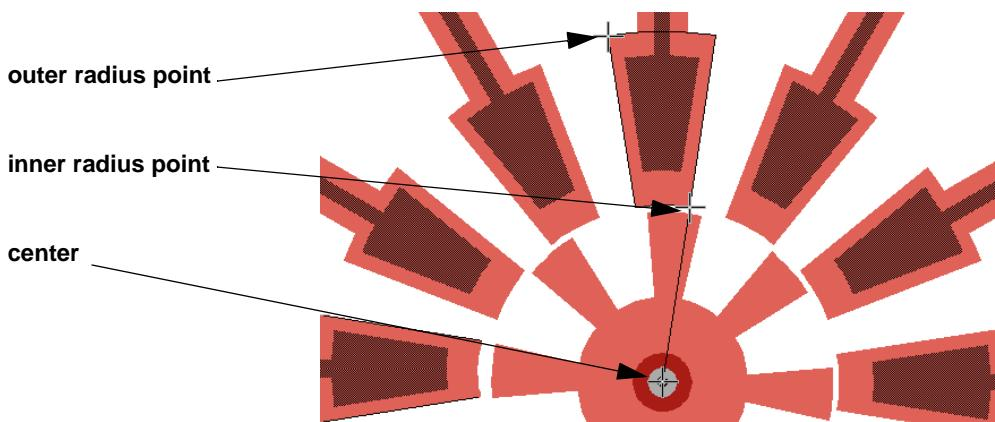

Figure 33: Creating a torus
- Left-click the center of the incomplete motor to begin drawing the torus. Left-click at the inner radius point, then complete the torus by right-clicking at the outer radius point (Figure 33).